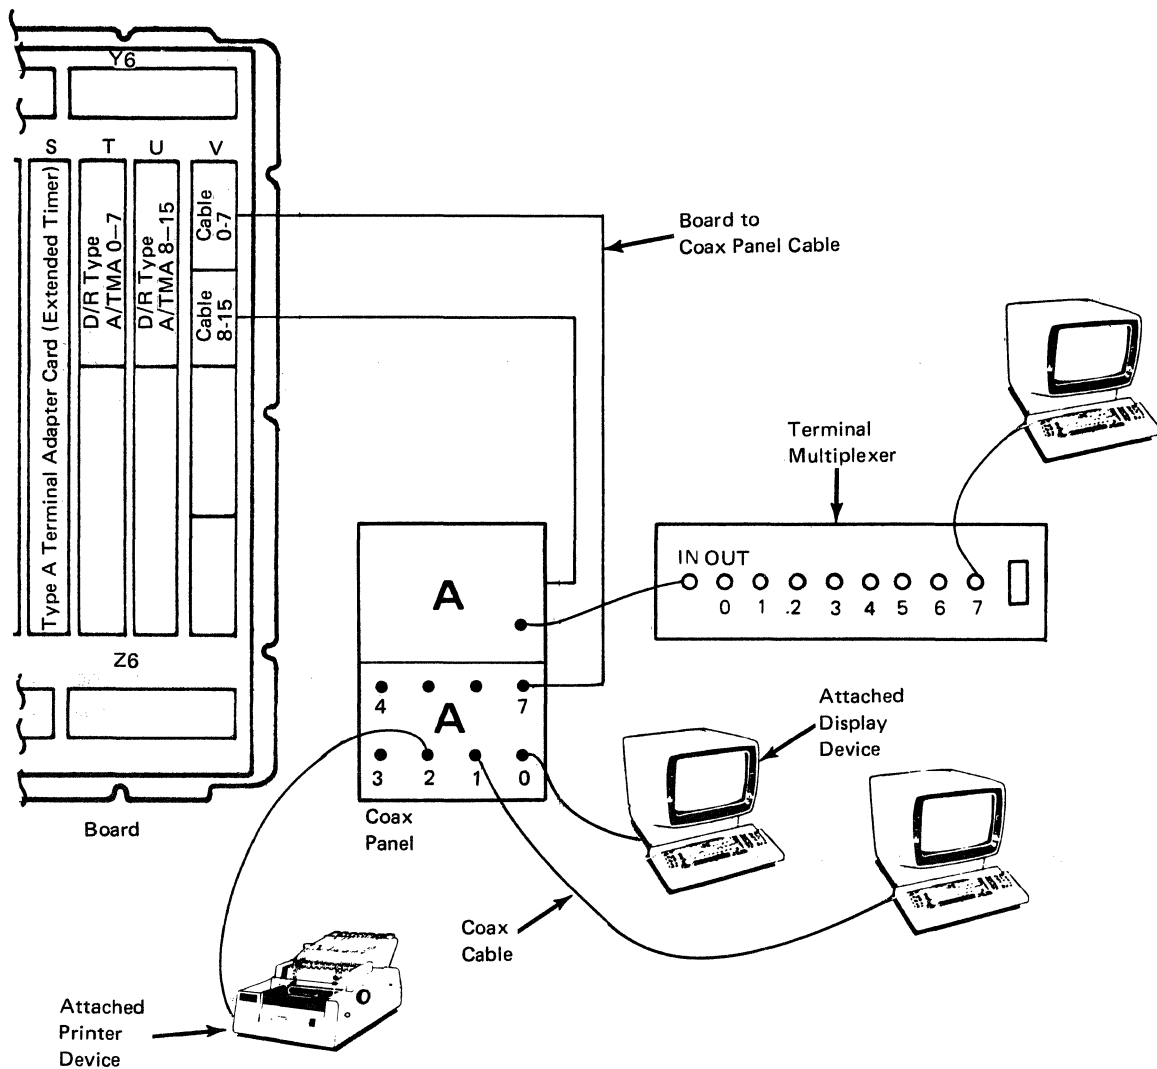

Figure 2-4. Type A Card, Device, Cable, and Panel Locations
- See card locations in Figure 2-4 and replace the Driver/Receiver card associated with the failing port group.
b. Also replace the driver-receiver card associated with the failing port group (0–7, 8–15, etc.). See Figure 2-4.